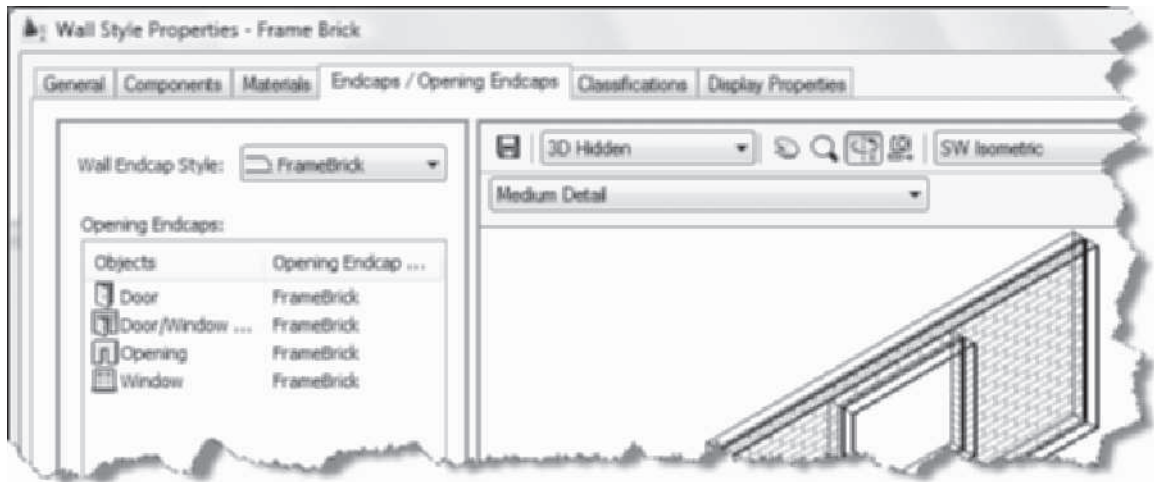

FIGURE 3.57 Editing the wall endcap style within the wall style
16. Choose the Endcaps/Opening Endcaps tab. Select the down arrow of the Wall Endcap Style field and choose FrameBrick as shown in Figure 3.57. Choose FrameBrick from the Opening Endcap Style drop-down for the Door, Door/WindowAssembly, and Opening fields as shown in Figure 3.57. Select OK to dismiss the dialog box.